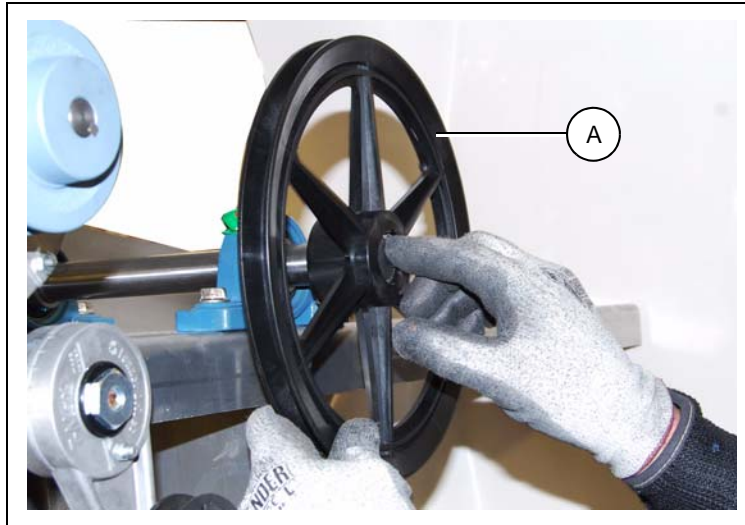

Figure 8Q
3. Tap the pulley (A) onto the shaft and key. (See Figure 8Q.)